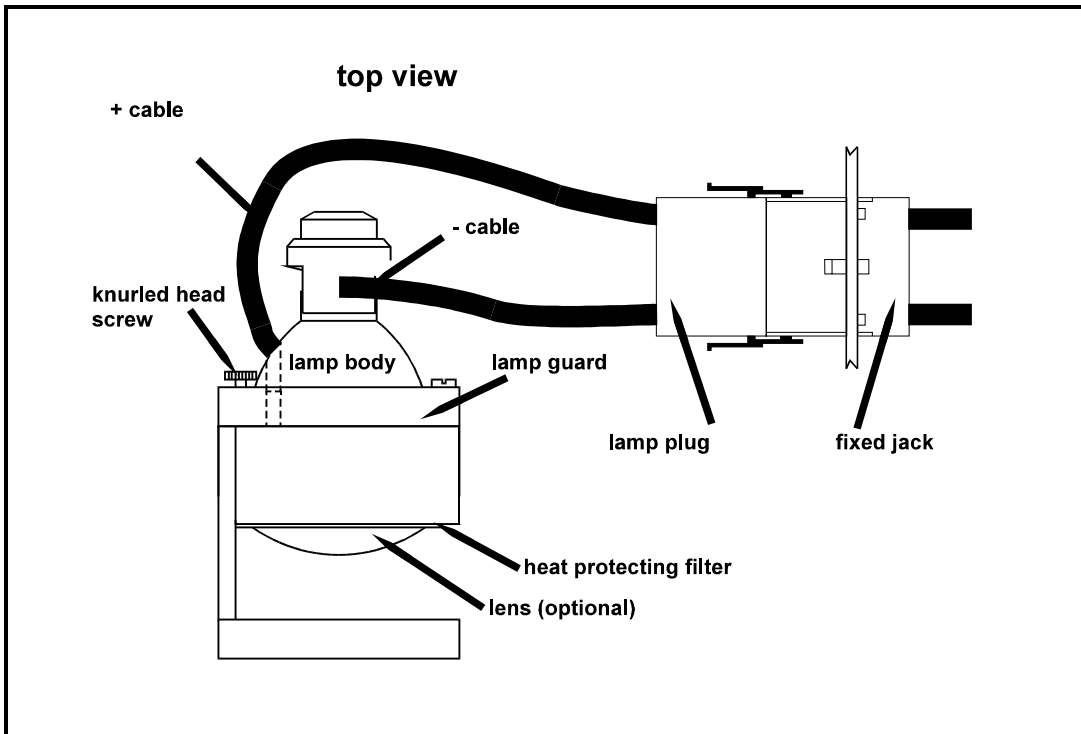

fig. 3: correct position of the lamp
- Insert a new lamp and close the lamp guard again. Fasten the lamp guard with the knurled head screw. For correct positioning of the lamp, refer to fig. 3.